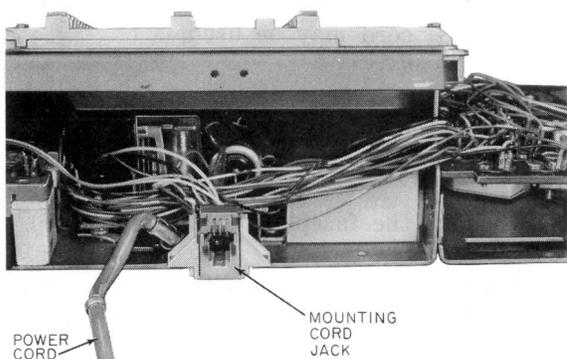

Fig. 7—870A2M Telephone Set, Partial View
- (1) Remove the housing (paragraph 3.21) and access the PSB terminals (paragraph 3.18).
- (2) Remove D6AD-87 mounting cord.
- (3) Install the 623P6 jack as shown in Fig. 7.
- (4) Connect the spade-tipped jack leads as follows.
- (a) (R) wire to TB-4.
- (b) (G) wire to TB-8.
- (c) (Y) wire to TB-2.
- (d) (BK) wire to TB-1.
- (e) Insulate and store (BL) and (W) conductors.
- (5) Connect (Y) lead of M2SL-87 cord to PSB-24 and the (BK) lead to PSB-25 and route cord through housing.
- (6) Connect the cord to the 95B1 power unit.
- (7) Reassemble the set.
- (8) Install a 625-type connecting block.